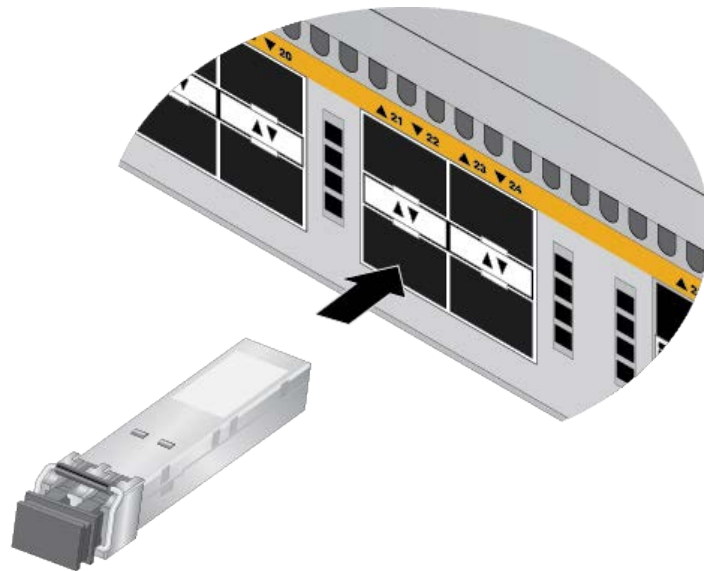

Figure 35. Installing an SFP28 or SFP+ Transceiver
3. Slide the transceiver into the port until it clicks into place, as shown in Figure 35.